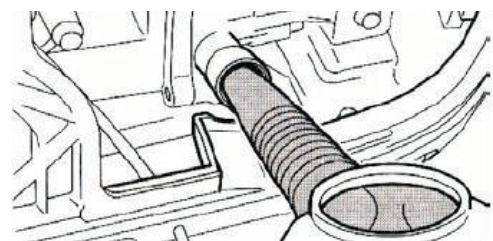
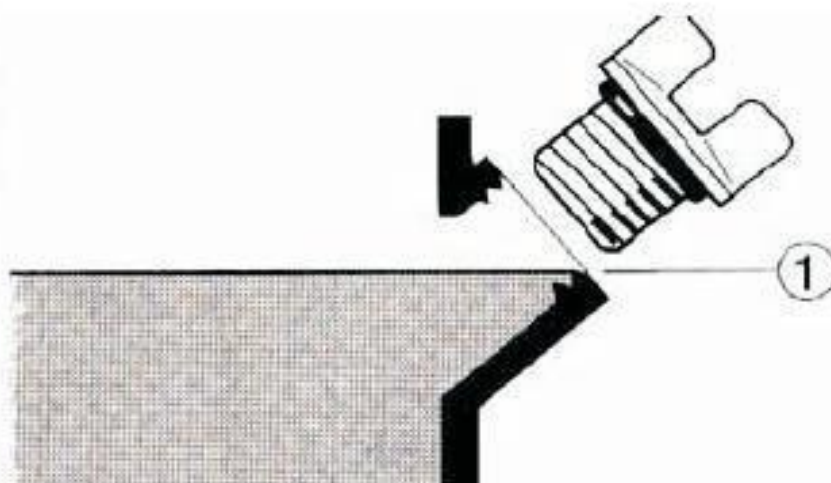

Figure 3
Figure 4
Using the funnel provided, fill with 0.42 quart of SAE 10W-30 or 10W-40, provided (see figure 3). See figure 4 for proper oil level (1).